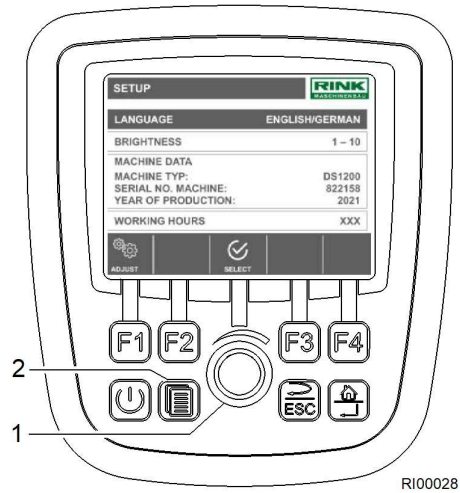

Fig. 39 Menu
1. When the menu button (Fig. 39/2) is pressed, the control menu Menu opens.
2. Select the desired menu item to be set by turning the rotary control (Fig. 39/1).